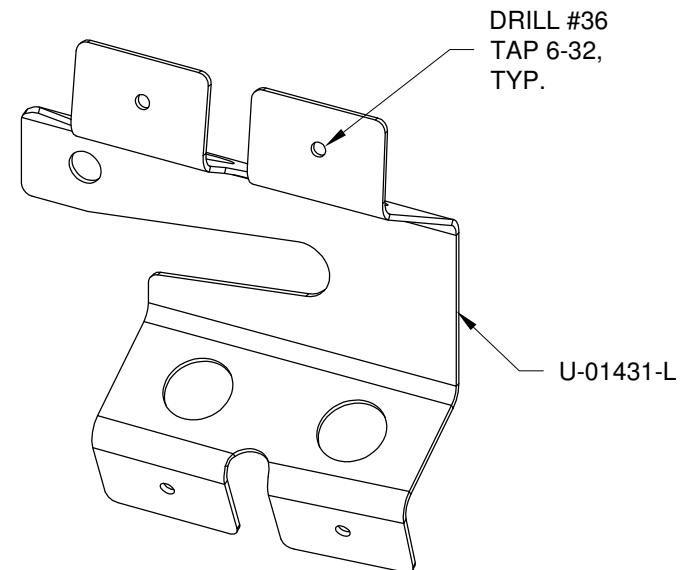

FIGURE 1: ENLARGE AND TAP HOLES IN NOSE WHEEL FAIRING BRACKETS
Step 1: Drill #36 the #40 holes in the U-01431-L & -R Nose Wheel Fairing Brackets then tap them 6-32. See Figure 1.